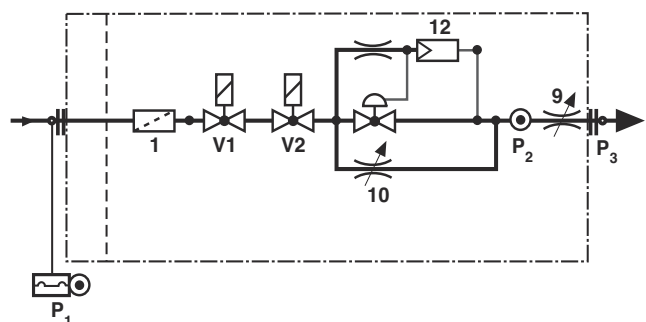

Fig. 9
- A.** measuring nozzle P2 (Fig. 9) before valve D
- C.** startup valve (no. 10 in Fig. 9)
**D.** maximum flow rate valve(no. 9 in Fig. 9)